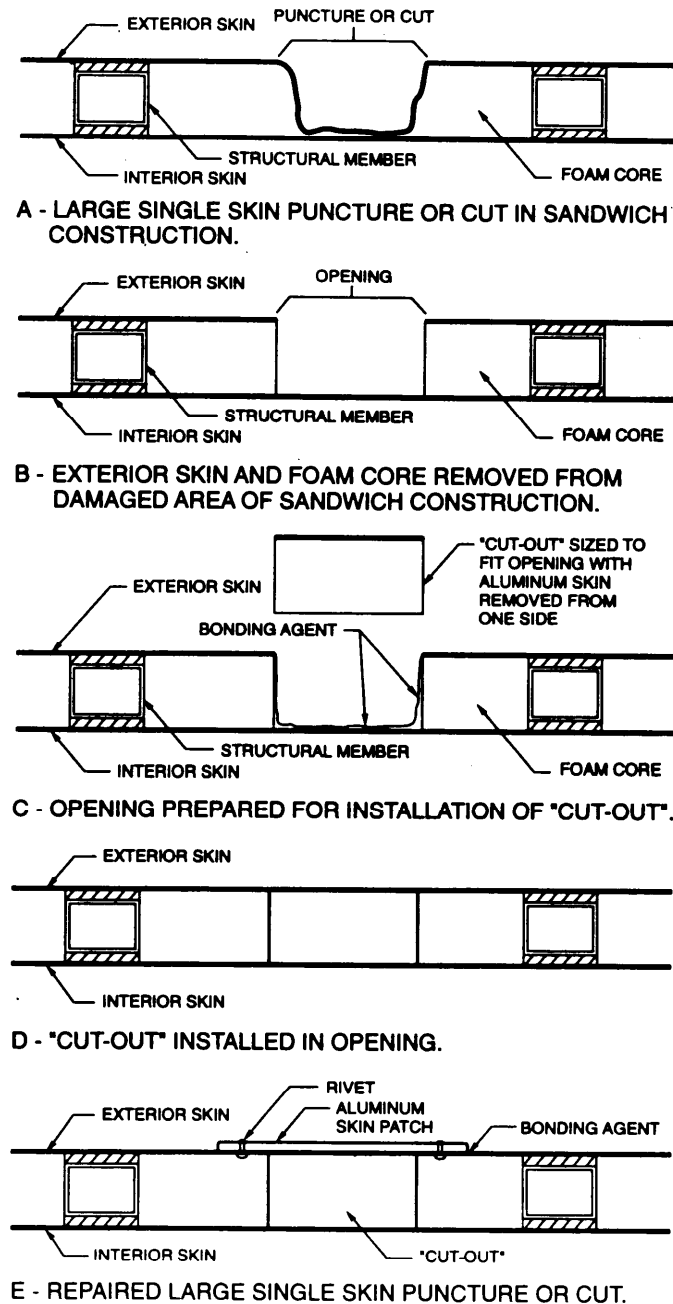

Figure 4-5. Shelter Wall Repair of Large Skin Puncture or Cut.
Repair. (Figure 4-5)
- (1) Select an aluminum skin patch that overlaps the puncture or cut by one inch in all directions.
- (2) Use the aluminum skin patch as a template positioned over the puncture or cut, and lightly scribe the area of the aluminum skin patch on the skin of the shelter.
- (3) Use a saw to cut and remove the punctured or cut skin area approximately one inch within the scribed mark (A and B, Figure 4-5). While cutting, take care not to cause additional damage to wall or interior skin.
- (4) Cut the foam core evenly along the edges where the skin is removed and remove the damaged foam core (B, Figure 4-5), maintaining perpendicular and straight edges.
- (5) Select a piece of block insulation or a cutout of the same type sandwich construction (C, Figure 4-5).
- (6) Size the block insulation or cutout to fit the opening where the skin and foam were removed. If a cutout is used, remove the aluminum skin from one side of the cutout.
- (7) Remove all paint or foreign matter from the overlap area on the skin of the shelter and an area approximately one inch around the scribed mark using emery cloth and cleaner. If the cutout is used, remove all paint or foreign matter from the aluminum skin of the cutout.
- (8) Roughen the skin surface with coarse grit emery cloth. If a cutout is used, roughen the surface of the aluminum skin.
- (9) Coat the interior of the opening where the skin and foam core were removed with mixed adhesive (paragraph 4-7.b.(4)).
- (10) Insert the block insulation or cutout into the opening where the skin and foam core were removed (D, Figure 4-5).
- (11) With the aluminum patch over the puncture area, drill #30 holes, around the perimeter of the patch, 1/2 inch from edge of patch and on one inch centers.
- (12) Coat the exposed block insulation or cutout and the overlap area with mixed adhesive.
- (13) Dip the pop rivets in the mixed adhesive and use the riveting tool for pop rivets to install the aluminum skin patch as shown (E, Figure 4-5).
- (14) Smooth and taper mixed adhesive (squeezed out during the riveting process) along the edges of the aluminum skin patch and immediately remove excess mixed adhesive with cloth saturated in toluene solvent.
- (15) Prime and paint the repaired surface. (Refer to paragraph 4-12.)
- (16) Inspect the repaired area to ensure that rivets and paint were applied correctly.